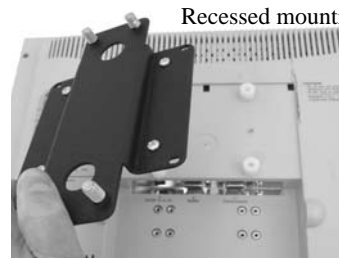

Figure 7
3. For displays with a recesses mounting surface, place adapter bracket over four spacers and secure using four M4 X 20 PHCS screws (see Figure 7).